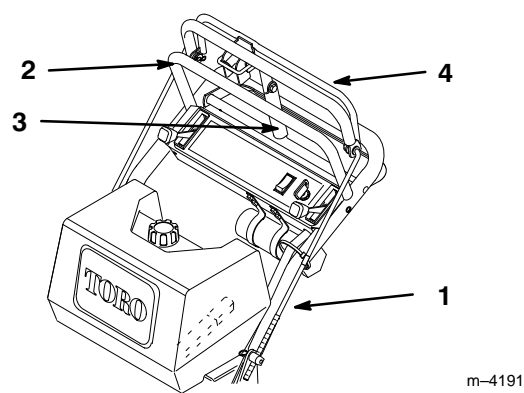

Figure 10
3. Check the gap between upper control bar and fixed bar with wheel drive fully engaged. Gap should be approximately 1 to 1-1/4 in. (25–32 mm) (Fig. 10).
5. Check parking brake adjustment. Brake rods should be adjusted so parking brake lever is snug when swung into position against the fixed bar while pulling back on upper control bar (Fig. 10).